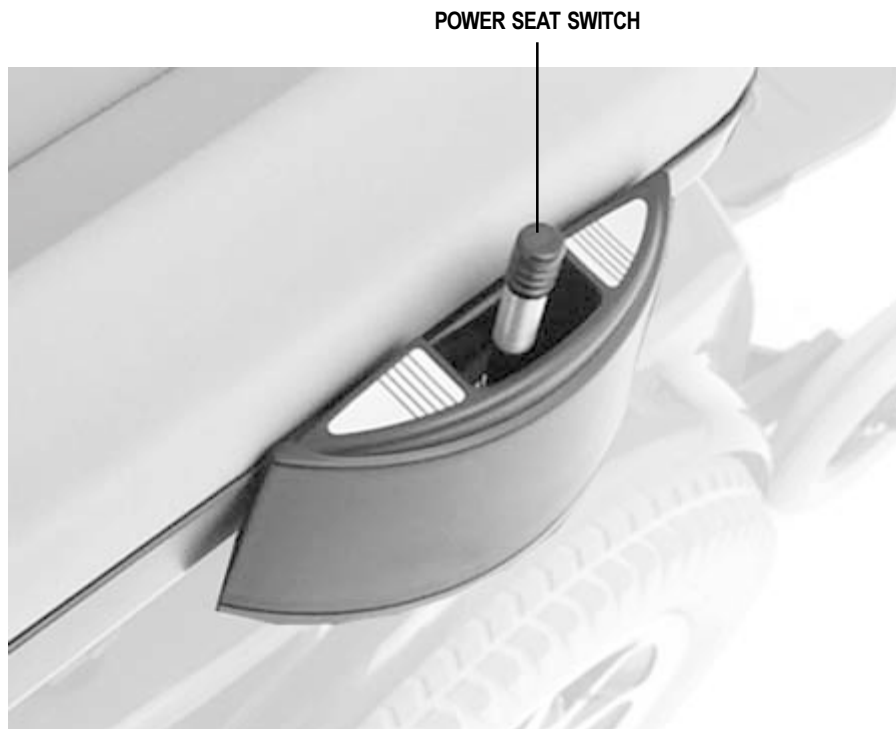

Figure 20. Power Seat Switch
- To raise the power elevating seat, push the toggle switch forward. See figure 20. Releasing the toggle switch returns the switch to its center (upright) position. To continue your lift, push the toggle switch forward again. Once the seat reaches its highest extension, the lift action stops; you should continue to hear and/or feel the lift motor running. This is because there is a clutch mechanism that allows the motor to continue running after the lift has reached its limit. This clutch works at both the top and bottom extensions of the lift.